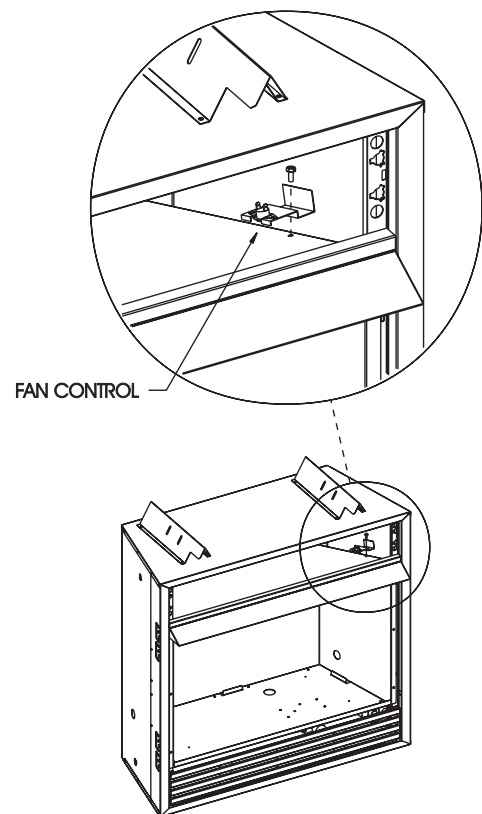

Figure 23
13. Refer to Figure 23 for fan control bracket location. Align clearance hole on fan control bracket with screw hole on firebox top. Attach fan control bracket to firebox top with one (1) screw from Step 12.